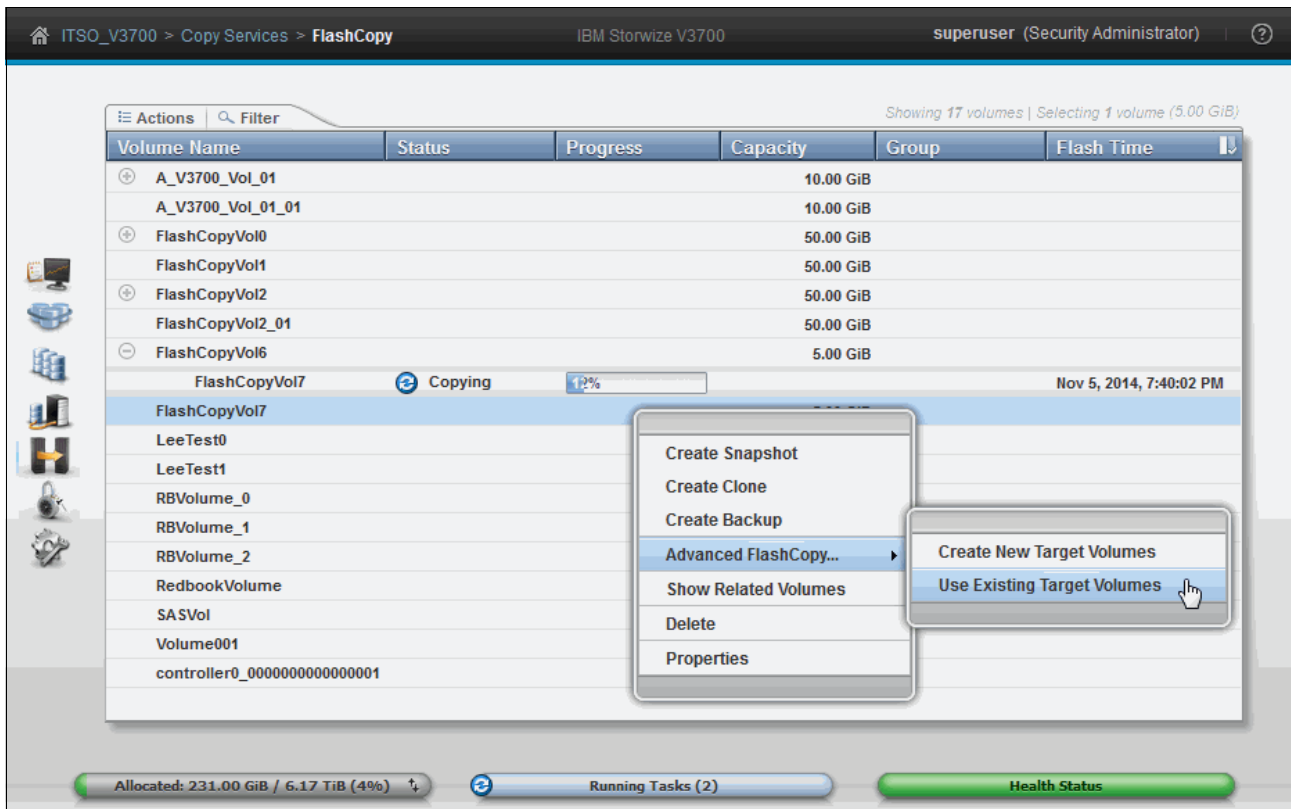

Figure 10-44 Create reverse mapping
2. Create a mapping using the target volume of the mapping to be restored. In this example, it is FlashCopyVol17, as shown in Figure 10-44. Select **Advanced FlashCopy** → **Use Existing Target Volumes**.